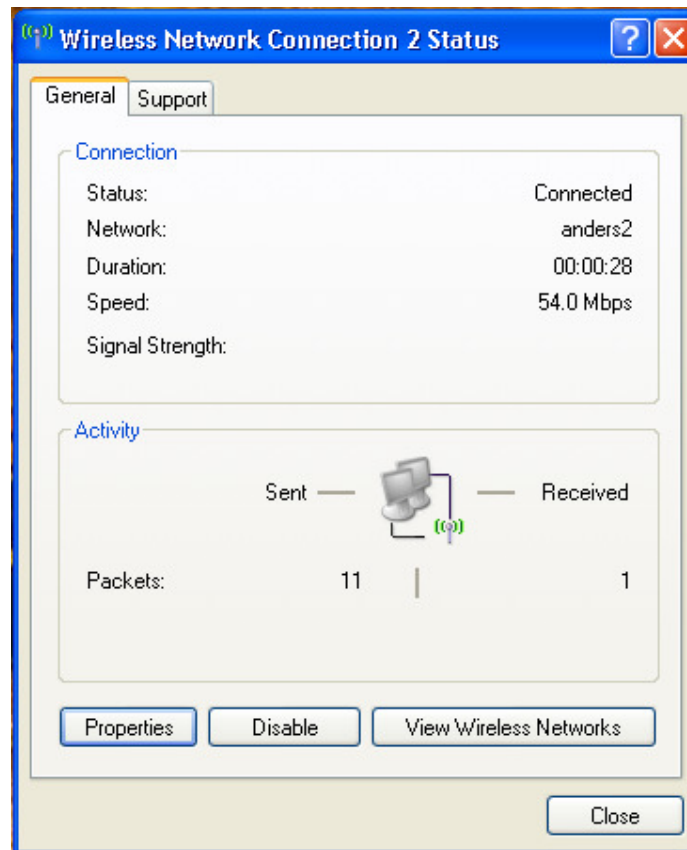

Figure 1.18: Disabling the Wi-Fi network adapter
- Disable the wireless adapter via 'Network Connections' > 'Wireless Network Connection', as shown in Figure 1.18